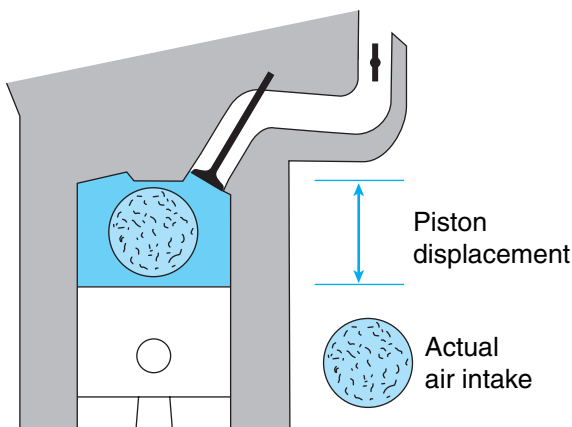

FIGURE 10.102 Volumetric efficiency.
The measurement comparing the volume of air-flow actually entering the engine with the maximum that theoretically could enter it (this is the same as the displacement) is called *volumetric efficiency* (VE) (**Figure 10.102**). VE determines the engine's maximum torque output.